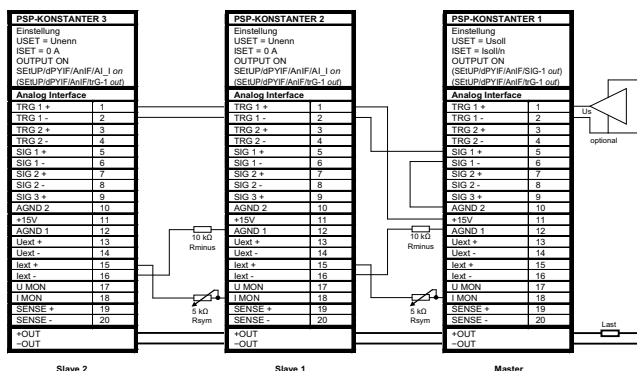

Figure 7.9.2 Wiring for Parallel Master Connection
- Connect master and slaves as shown in figure 7.9.2.
- In order to assure that the slaves' OUTPUT ON status is activated along with the master's OUTPUT ON status via the signal output and trigger input circuit as shown in figure 7.9.2, "SETUP/dPYIF/AnIf/SiG-(x1) out" must be selected at the master and "SETUP/dPYIF/AnIf/trG-(x2) out" must be selected at the slaves – (x1) and (x2) in example 1. The master's OUTPUT ON status can be optionally controlled via the trigger input – setting at the master: "SETUP/dPYIF/AnIf/trG-(x3) out", (x3) in example 1.